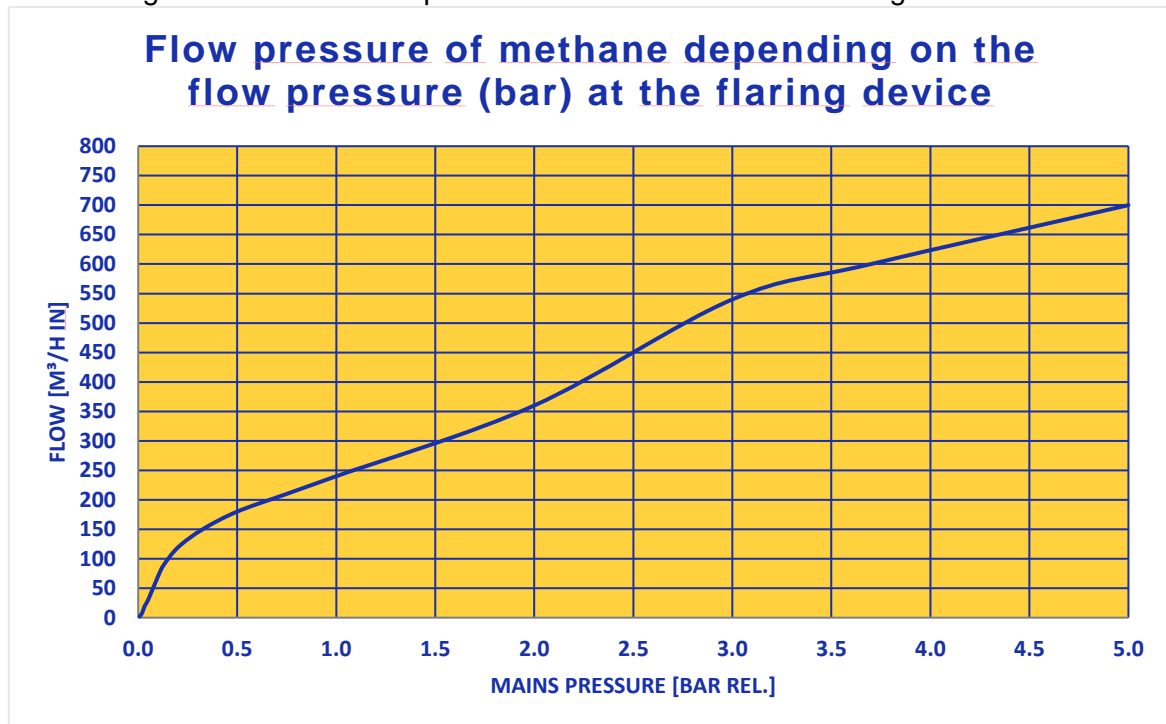
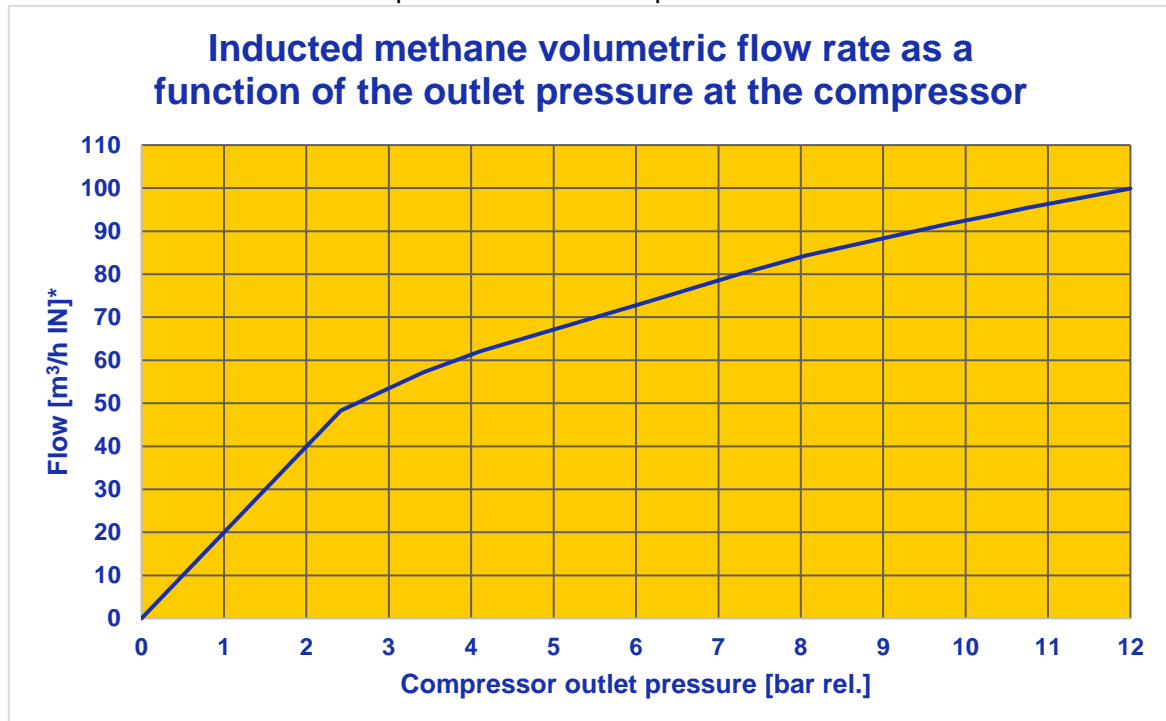

Figure 4: Flow pressure of methane depending on the flow pressure (bar) at the flaring device
Figure 5: Relationship between induced methane volumetric flow rate and the compressor outlet pressure at the compressor
- Volumetric flow: See charts (Figure 4: and Figure 5: on page 8)
* Explanation of Y axis in Figure 4: and Figure 5: